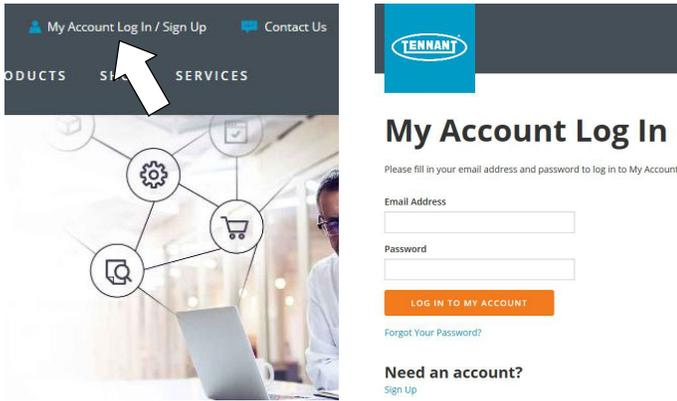

Fig. 24
1. Press “My Account Log In/Sign Up” to open or create an account (Figure 24).